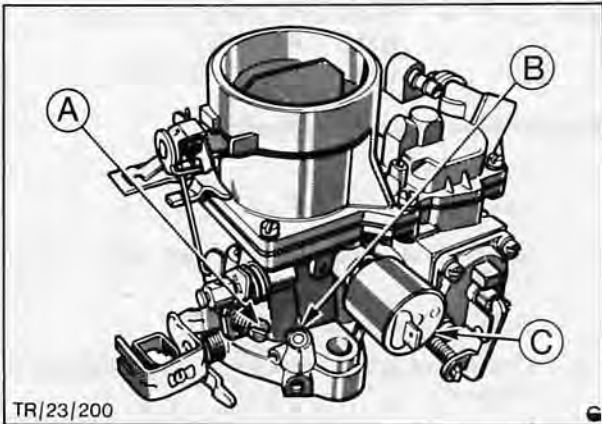

Fig. 30. Motorcraft manual choke carburettor (By-pass idle)
6. Adjust idle speed screw to achieve correct idle RPM Fig. 30 (800 rpm).